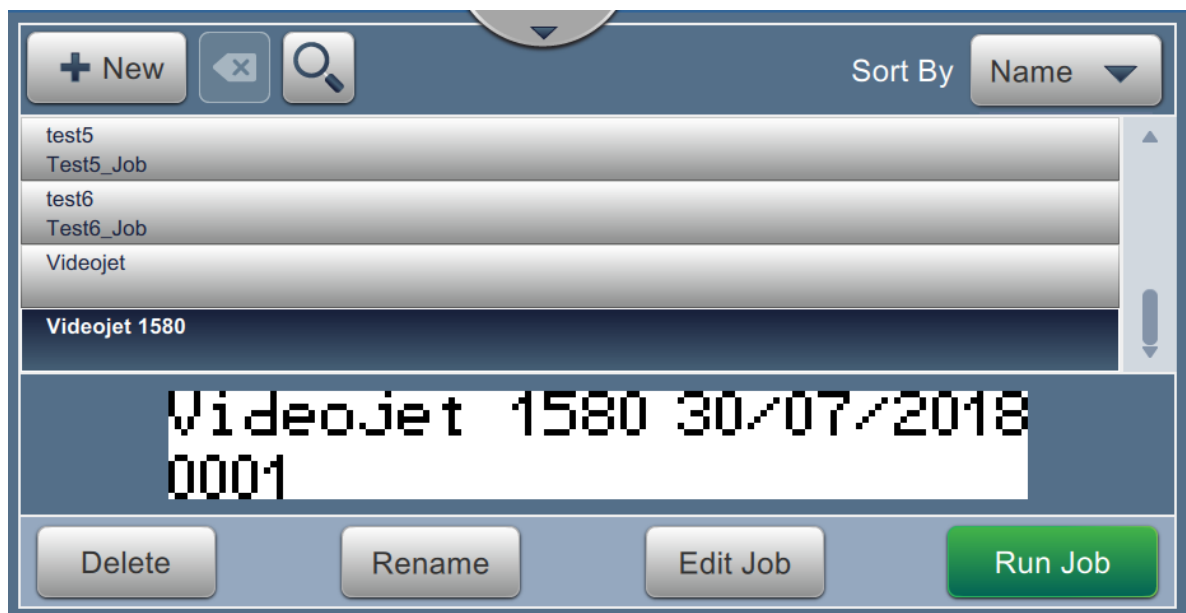

Figure 5-22: Job List
32. The job “Videojet 1580” is added to the job list as shown in Figure 5-22.